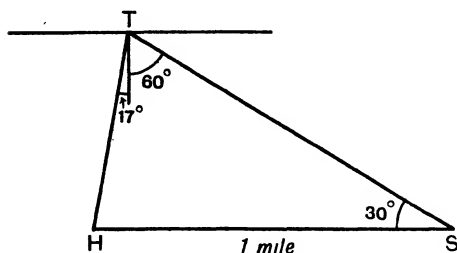

FIG. 104. DIAGRAM FOR EXAMPLE 2
2. A boy usually walks home from school along a path running due west for a mile. Sometimes it is flooded and he goes along a road which runs from school W.  $30^\circ$  N. He then turns left along a road which runs S.  $17^\circ$  W., and takes him home, Fig. 104. How much farther has he to walk when the usual path is flooded?